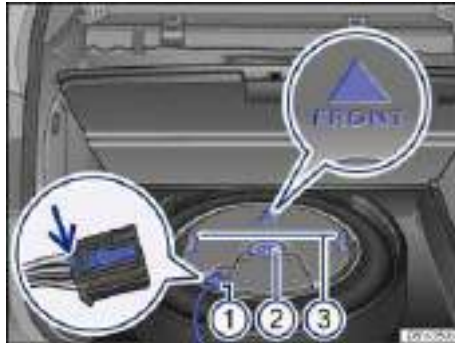

Fig. 195 Under the luggage compartment floor: Fender Premium Audio subwoofer.
1. Completely unscrew the fastening screw ⇒ fig. 195 \(2\) counterclockwise and remove with metal cap.